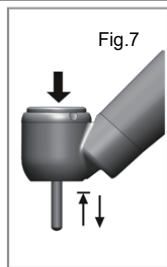

Fig.7
1. Follow the arrowhead direction show in Fig.7 to take off or install the bur.